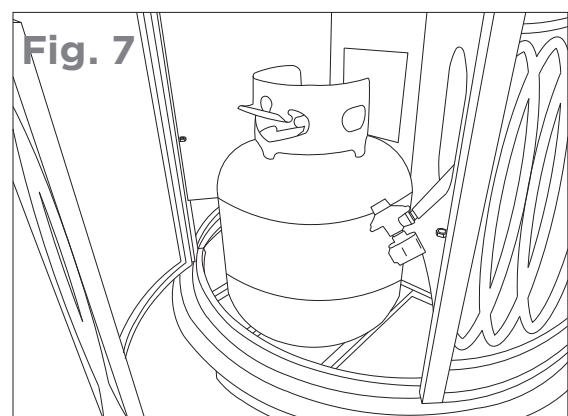

Fig. 7
2. Put the cylinder into the cylinder rack (see Fig. 7).